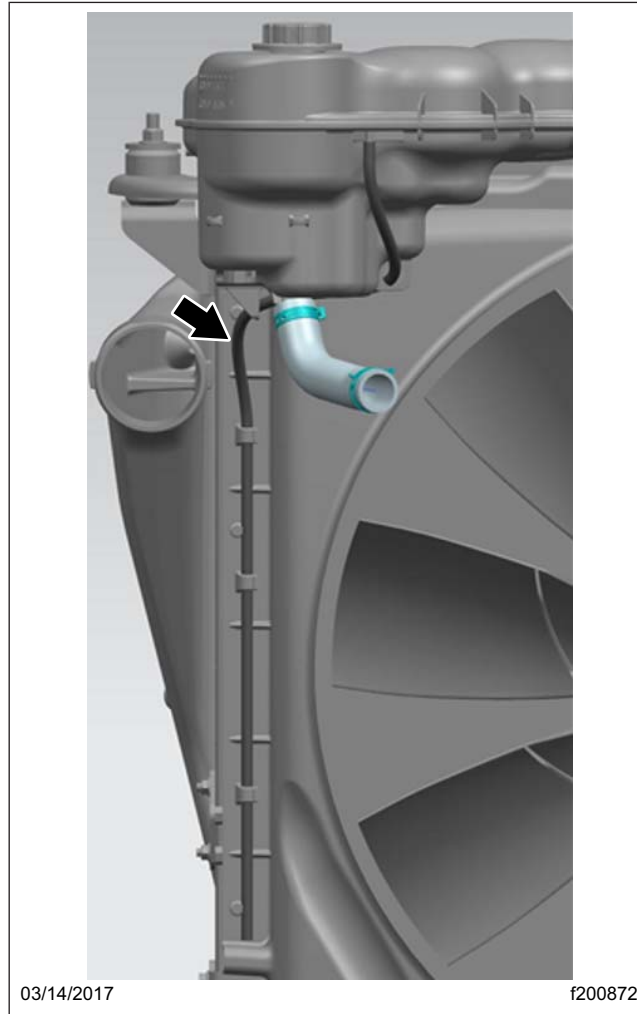

Fig. 3, Surge Tank Vent Line
9. Disconnect the surge tank vent line. See Fig. 3.
9. Connect the surge tank vent line. See Fig. 3.